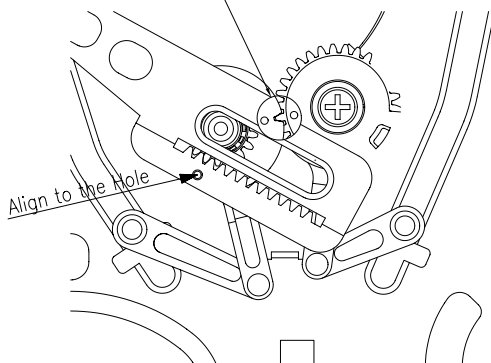

Fig. 3.8 Assembly of the L/R LOADING AS and the LOADING RACK
- Refer to Fig. 3.8 in assembly.